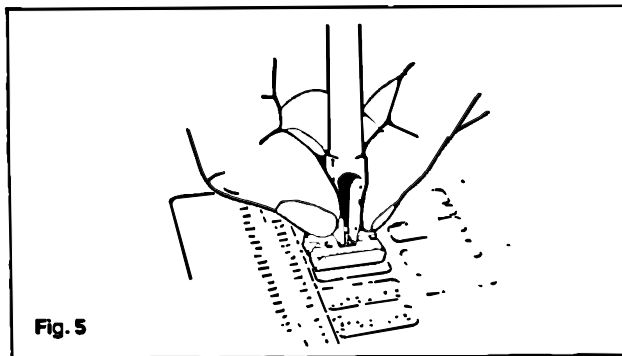

Fig. 5
1. For sockets 3356, 3370, 3398, 3392, and 3363 depress tongs of 3527 Tool and insert into body port. (Figure 5)